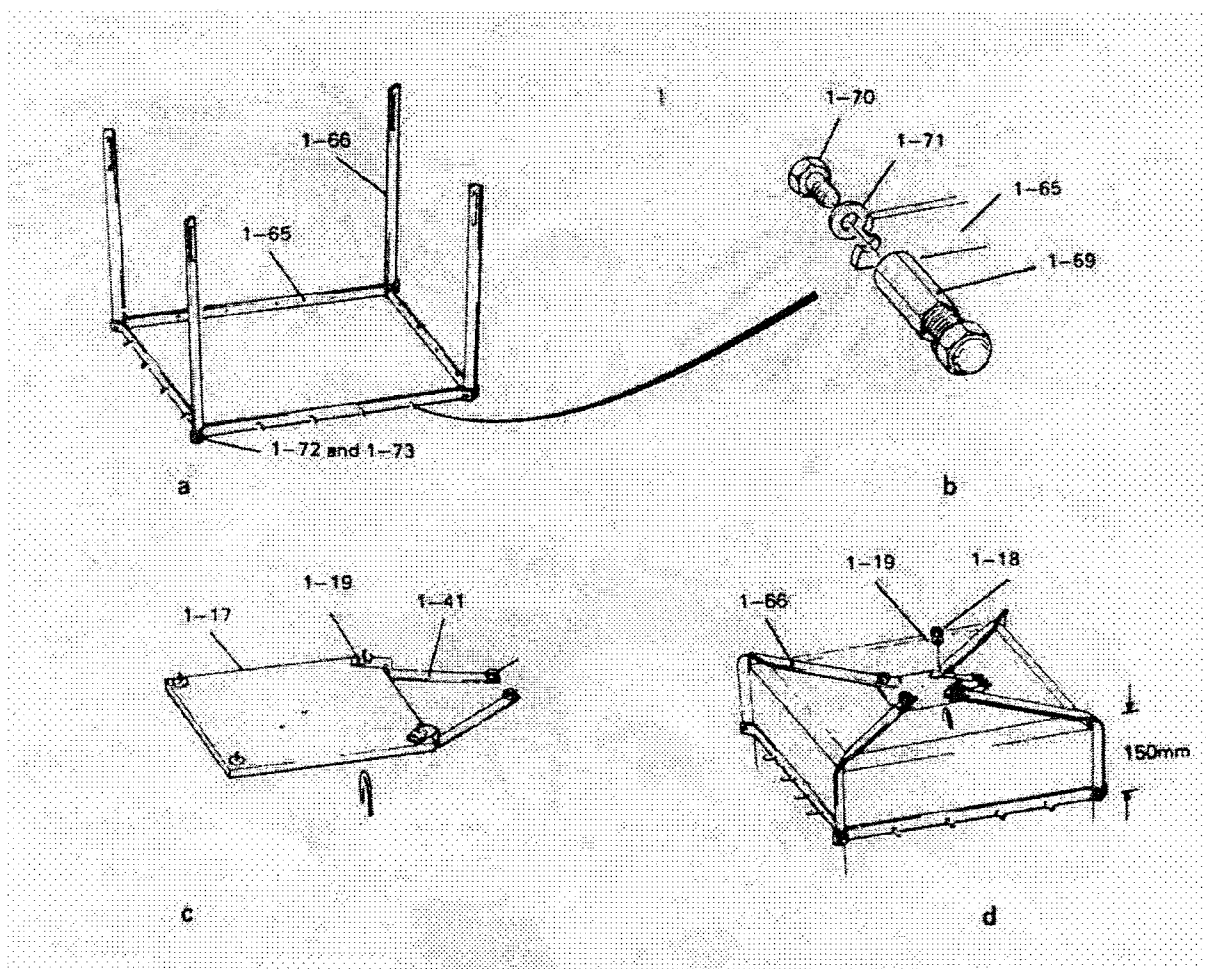

FIGURE 4 – Mast Base Block Earthing
Step 1 Assemble the earthing termination assembly consisting of earth termination strip (1-65), connecting strip (1-66), bolts (1-72), and nuts (1-73), as shown in Fig. 4(a). Assemble the earth terminal connectors (1-69, 1-70 and 1-71), as shown in Fig. 4(b). The total number fitted is 16. Fit the earthing termination assembly round foundation Block A.
Step 2 Fit the base plate (1-17) over ragbolts (1-18), and the base strap connectors (1-41) over ragbolts (1-45) on foundation block A, as shown in Fig. 4(c). Twist the earth connecting strips (1-66) so that they lie flat on the base plate and over the ragbolts (1-18), as shown in Fig. 4(d). Fix them down with nuts (1-18) and washer (1-19).